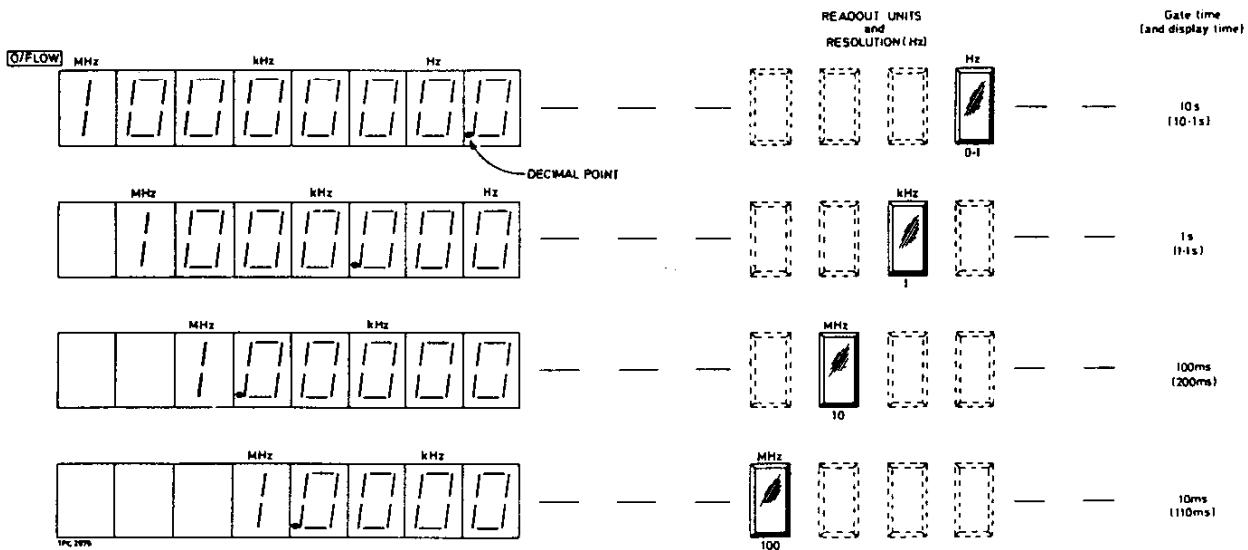

Fig. 2.2 Readout calibration and display data for a 10 MHz signal
- (1) Set the SELECT switch to suit the input frequency and connect the signal to be measured to the selected input socket.
- (2) The instrument is controlled from its internal 1 MHz standard unless an external standard is connected as in Sect. 2.4.
- (3) Select the required READOUT UNITS, noting the corresponding resolution figure, i.e. the value of the smallest units in the display. The decimal point position, readout calibration and gate and display times are shown in Fig. 2.2.
The display will be updated at the intervals shown in Fig. 2.2 unless the HOLD button is pressed. In this case the HOLD indicator will light and the display will be held indefinitely, even if the input signal is removed.
- (1) Connect the 1 MHz INT STD socket to the selected INPUT socket and terminate the signal into  $50 \Omega$  by using a T-connector.
- (2) Remove any connection to the EXT STD socket.
- (3) Select each of the READOUT UNITS in turn and check that the readout is within  $\pm 1$  count of that shown in Fig. 2.2.
- (4) Press the HOLD button and check that the HOLD indicator lights and that the readout is retained when the input lead is disconnected.